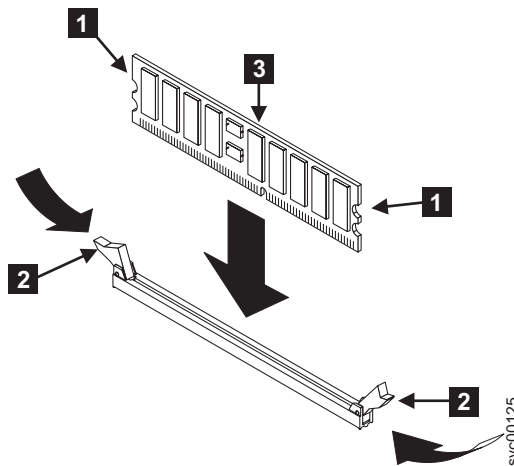

Figure 156. Replacing a memory module
1. With the clips **2** open, lower the memory module **3** into the connector, as shown in Figure 156. Close the clips by pressing them inward.